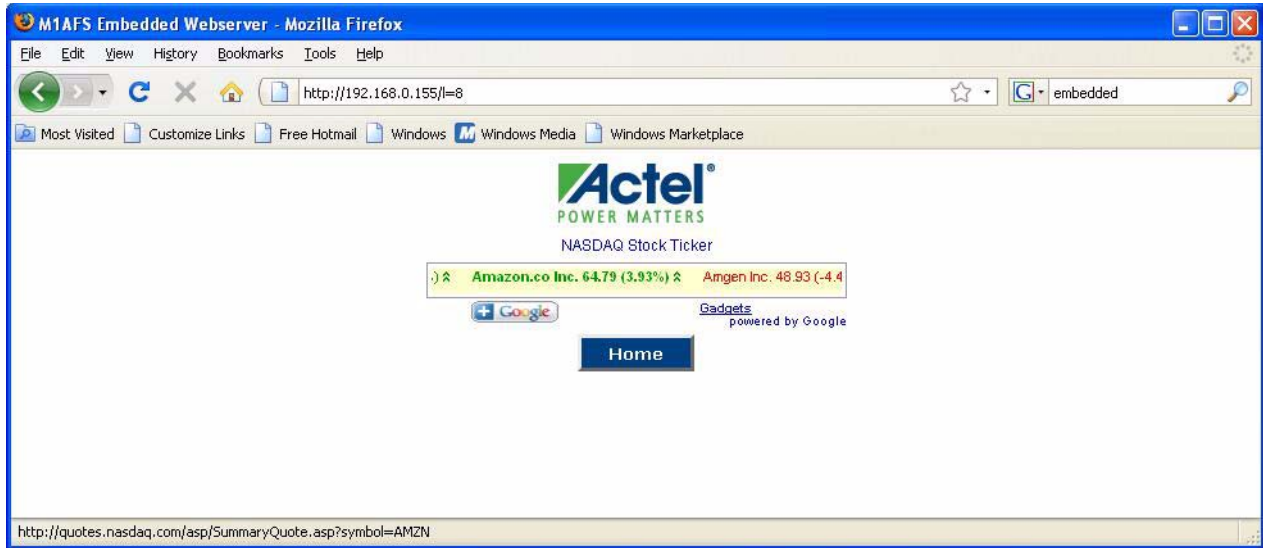

Figure 2-32 · Stock Ticker
- The web page displays NASDAQ live stock (Figure 2-32).